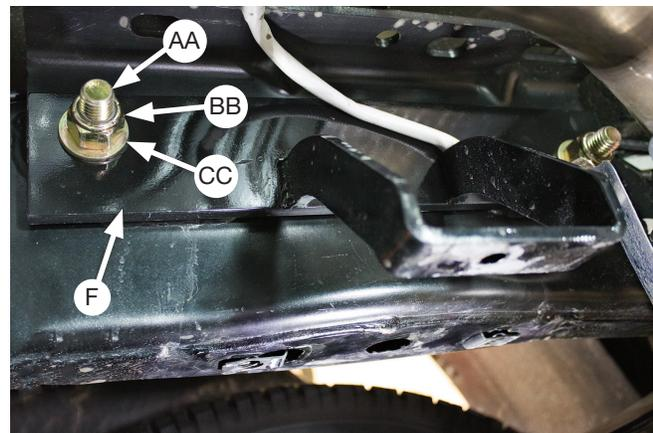

Fig. 39
10. Remove the factory fifth wheel hitch hardware (if equipped) from the holes in the side of the frame. Using the existing holes in the frame, attach the upper frame brace (F) to the frame using the factory hitch hardware removed or the 5/8" (AA, BB, CC) hardware supplied (Fig. 39). Leave loose at this time.